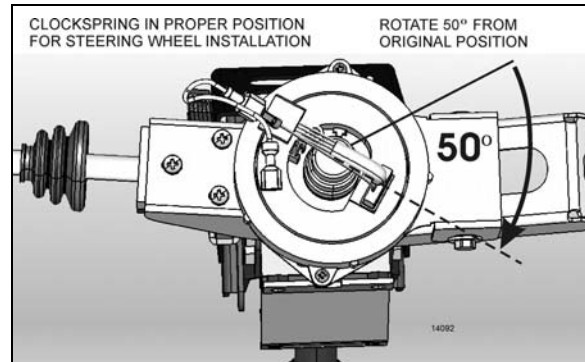

FIGURE 15: PROPER CLOCKSPrING POSITION
5. Break the paper seal and rotate the center part of the clockspring about 50° clockwise (Figure 15). This step is necessary for the installation of the steering wheel.